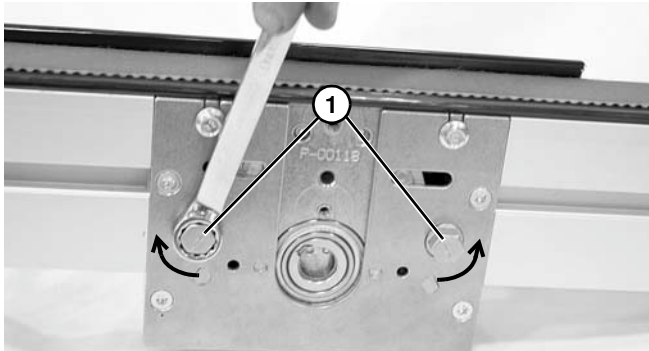

Figure 26
10. Rotate the tensioner cams (**Figure 26, item 1**) in the direction indicated to tension belt.